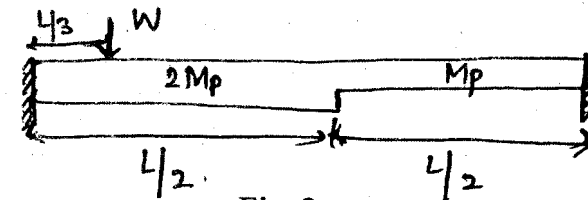

Fig. 2
- (b) Determine the collapse load in the fixed beam shown in fig. 2 in which plastic moment is $2M_p$ in one half and M_p in other half. 15